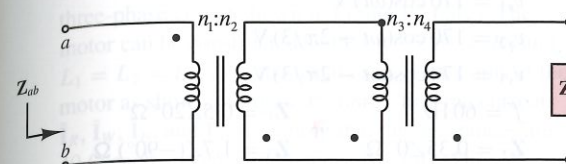

Figure P7.56
7.56 The circuit in Figure P7.56 shows the use of ideal transformers for impedance matching. You have a limited choice of turns ratios among available transformers. Suppose you can find transformers with turns ratios of 2:1, 7:2, 120:1, 3:2, and 6:1. If Z_o is $475\angle -25^\circ \Omega$ and Z_{ab} must be $267\angle -25^\circ$, find the combination of transformers that will provide this